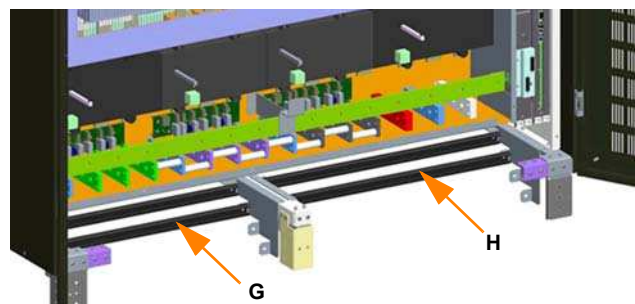

Figure 3.14
8. Fit two cable securing bars (G), (H) between the next set of lugs on profiles (A), (B), (C), (D) as shown in Figure 3.14. Secure each bar using two M5 nuts and bolts tightened to a torque of 6.0 Nm.
Note: For reasons of clarity the cables connected to the rear holes are not shown in Figure 3.14.
Note: For reasons of clarity the cables connected to the power busbars are not shown in Figure 3.14.